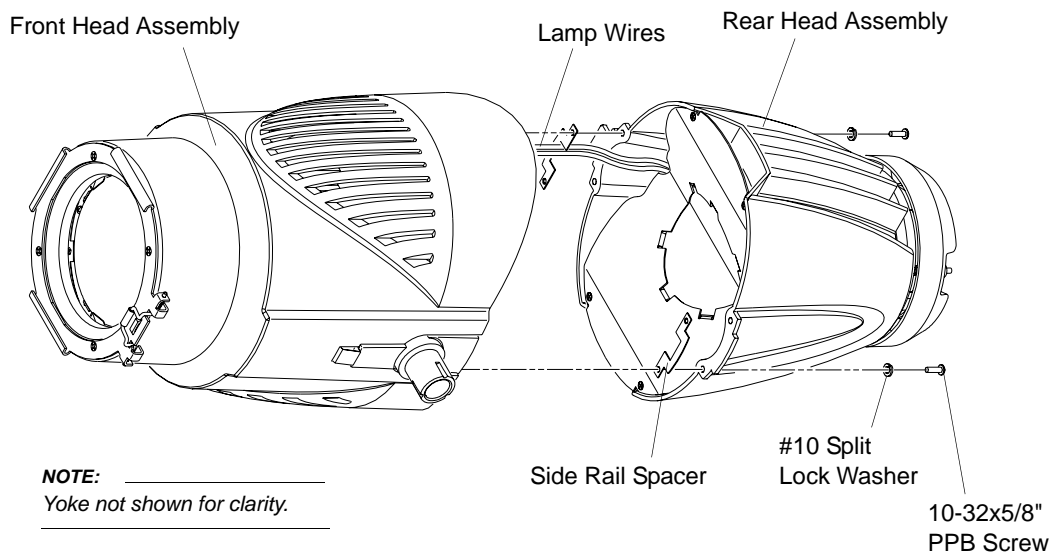

Figure 2-8: Rear Head Assembly Removal and Replacement
Step 2. At side rails, remove four 10-32x5/8" PPB screws and #10 split lock washers (Figure 2-8). (Side rail spacers will come loose also.)